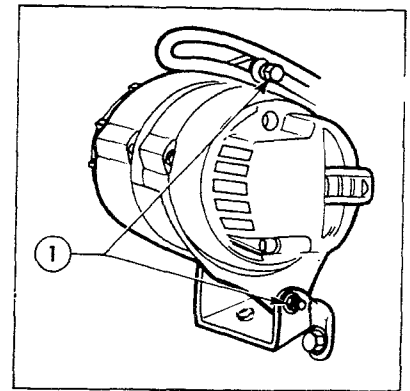

FIG. 26
**TO ADJUST VEE BELT TENSION:** Loosen alternator mounting and adjusting strap bolts as per figure 26. Move alternator to adjust belt tension. Tension is correct when your thumb pressure on belt at a point between alternator and water pump pulleys does not exceed 1/4". Tighten alternator mounting and adjustment strap bolts.